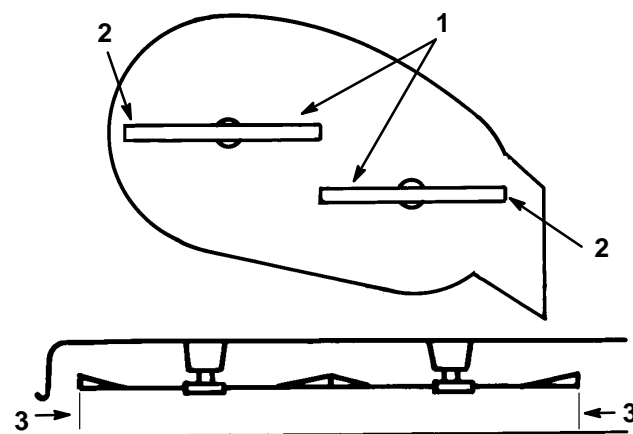

Figure 10
3. Carefully rotate blade(s) side to side (Fig. 10). Measure between the outside cutting edges and the flat surface (Fig. 10). If both measurements are not within 3/16" (4.762mm), an adjustment is required; refer to steps 4 through 6.
3. Carefully rotate blade(s) side to side (Fig. 10). Measure between the outside cutting edges and the flat surface (Fig. 10). If both measurements are not within 3/16" (4.762mm), an adjustment is required.